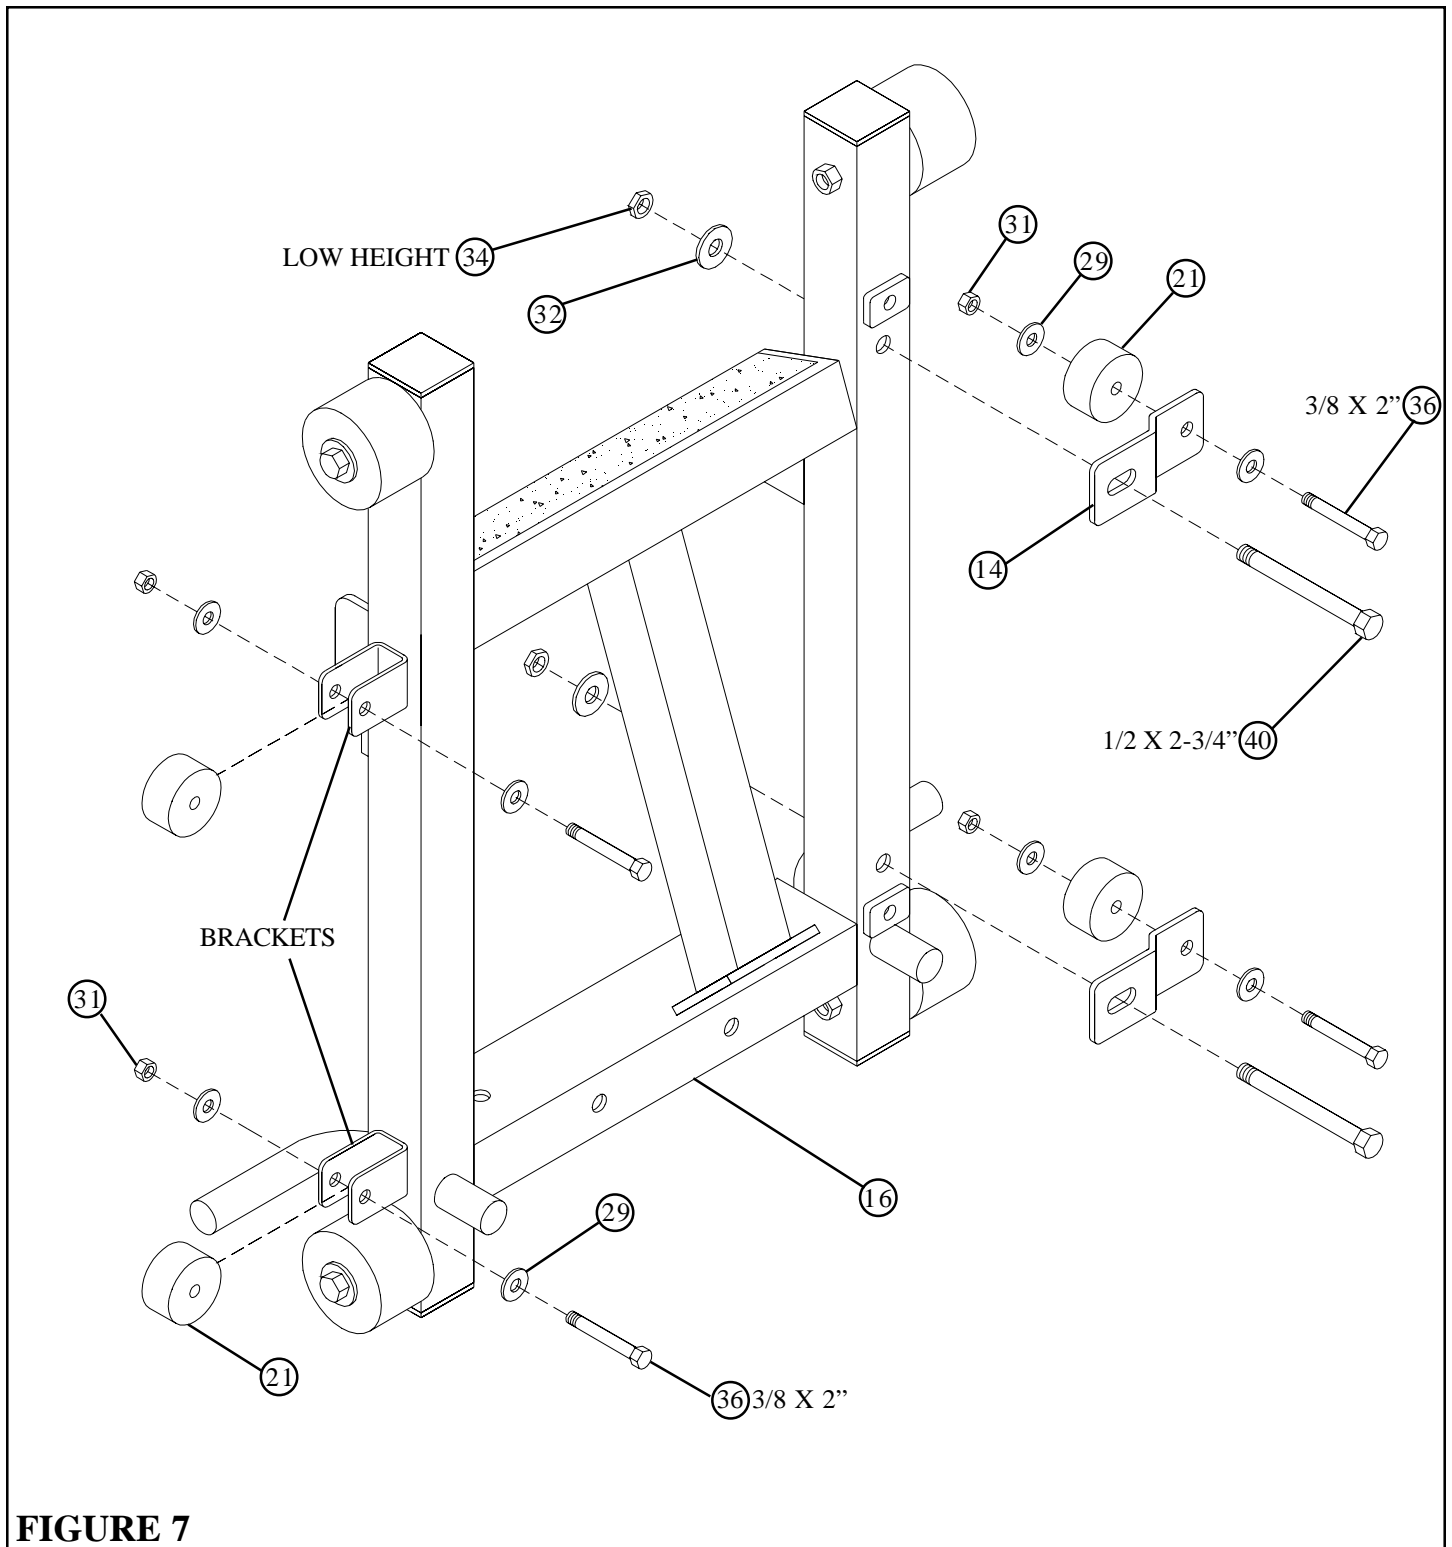

FIGURE 7
- **SECURELY** assemble two 2" DIA. WHEELS (21) to the BRACKETS on the left side of the CARRIAGE (16) as shown in FIGURE 7 using two 3/8 X 2" BOLTS (36), four 3/8" WASHERS (29), and two 3/8" LOCK NUTS (31).
- Assemble the two ADJ. WHEEL BRACKETS (14) to the right side of the CARRIAGE (16) as shown in FIGURE 7 using two 1/2 X 2-3/4" BOLTS (40), two 1/2" WASHERS (32), and two 1/2" LOW HEIGHT LOCK NUTS (34). (**NOTE: TIGHTEN BRACKETS SECURELY TO THE CARRIAGE, THEN BACK NUT OFF 1/2 TURN TO ALLOW FOR ADJUSTMENT IN A LATTER STEP.**)
- **SECURELY** assemble two 2" DIA. WHEELS (21) to the ADJ. WHEEL BRACKETS (14) on the right side of the CARRIAGE (16) as shown in FIGURE 7 using two 3/8 X 2" BOLTS (36), four 3/8" WASHERS (29), and two 3/8" LOCK NUTS (31).